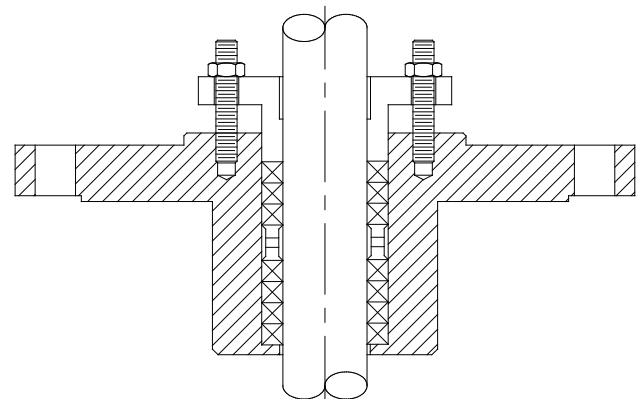
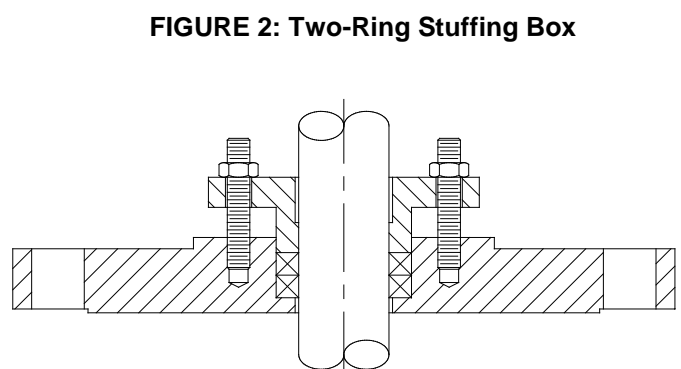

FIGURE 1: Seven-Ring Stuffing Box
FIGURE 2: Two-Ring Stuffing Box
Your BRAWN Mixer has been furnished with either a standard, seven-ring, stuffing box (see Figure 1), or a low-pressure, two-ring, stuffing box (see Figure 2), depending on the application requirements. Unless otherwise specified, the packing material will be one of those shown in Figure 3 (Page 2). Refer to the mixer specification sheet to ascertain the type of stuffing box and packing material that have been supplied with your mixer.
- Coat all surfaces of the packing rings and lantern ring (if applicable) with a high-quality lubricant that is compatible with the product and suitable for the service conditions, and install in the sequence shown in Figure 1 or Figure 2.